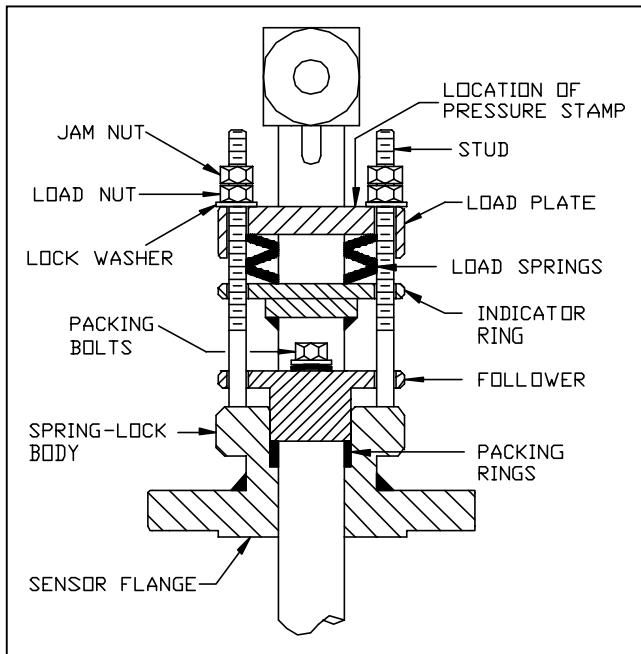

Figure 3. Spring-Lock Cutaway
- With the follower and packing rings already in place (factory assembled), insert the sensor into the Spring-Lock body (Figure 3). Loosely bolt together (hand tight) the sensor, gasket and mounting flange. Insert the assembly until the tip of the sensor hits the opposite side of the pipe. Align the head of the sensor so that the arrow labeled "flow" on the head is in the direction of the flow to within 3°. The contour of the weld coupling should match the contour of the pipe. Check that the bottom of the weld coupling is in contact with the pipe wall.